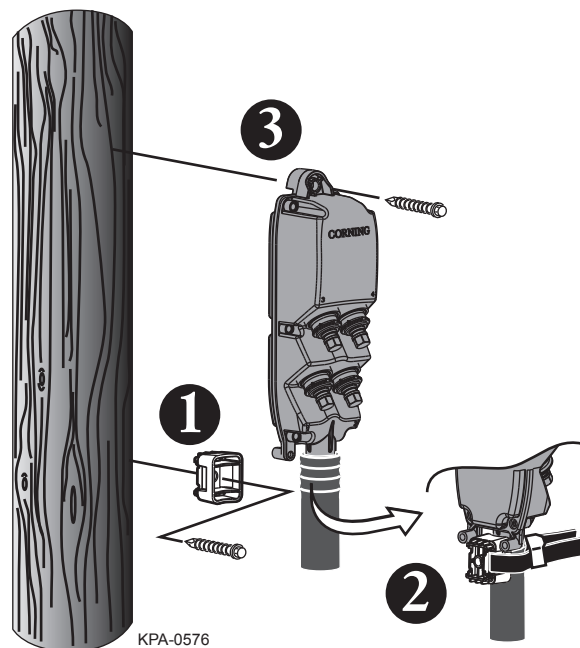

Figure 7
Step 1: Use threaded fasteners to secure the bottom adapter to the wall or pole and secure the terminal to the pole with a cable strap (Figure 7).